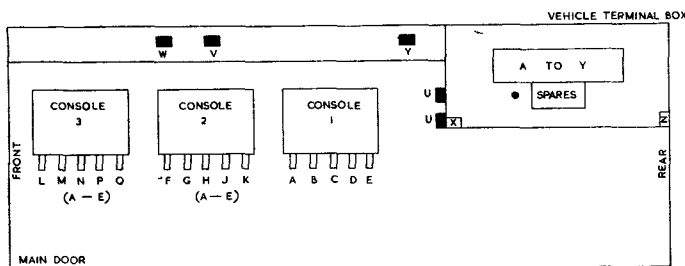

Fig. 42. R.V.467 : location of Jones sockets
- (1) YELLOW connects termination box to impedance matching junction box.
- (2) RED connects console 1 to junction box and termination box.
- (3) BLUE connects console 2 to junction box.
(4) GREEN connects console 3 to junction box.
**137.** The layout of all Jones sockets in the vehicle is shown in fig. 42. Sockets U, W, V and Y are for aerial control units. X is for A-band IFF video when the A-band IFF in AMES Type 14 is used. Z is for 400V 3-phase mains supply which